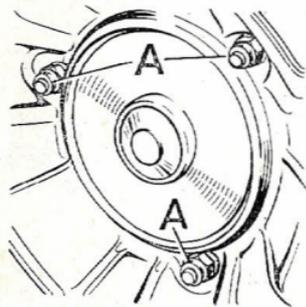

FIG. 13.
ment. Unscrew the three nuts (A) Fig. 13, to release the wheel. Note that these nuts are of the self-locking type and any replacements must be of the same description.